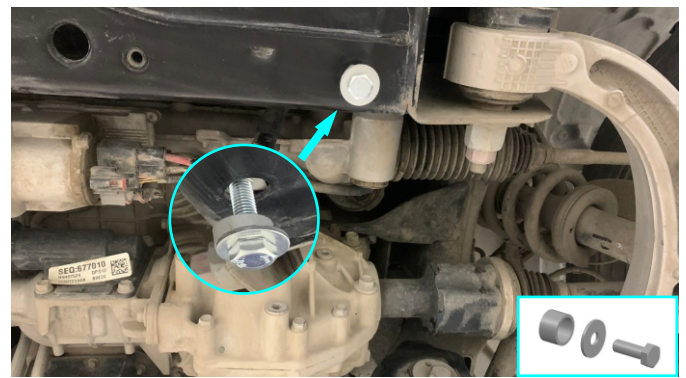

Fig. 2
2. Loosely insert supplied bolt M10x50 with flat washer M10 and spacer 8 mm (items C, F, I) on 2-3 turns to insert nut M10 from step 1 as shown in fig.2.